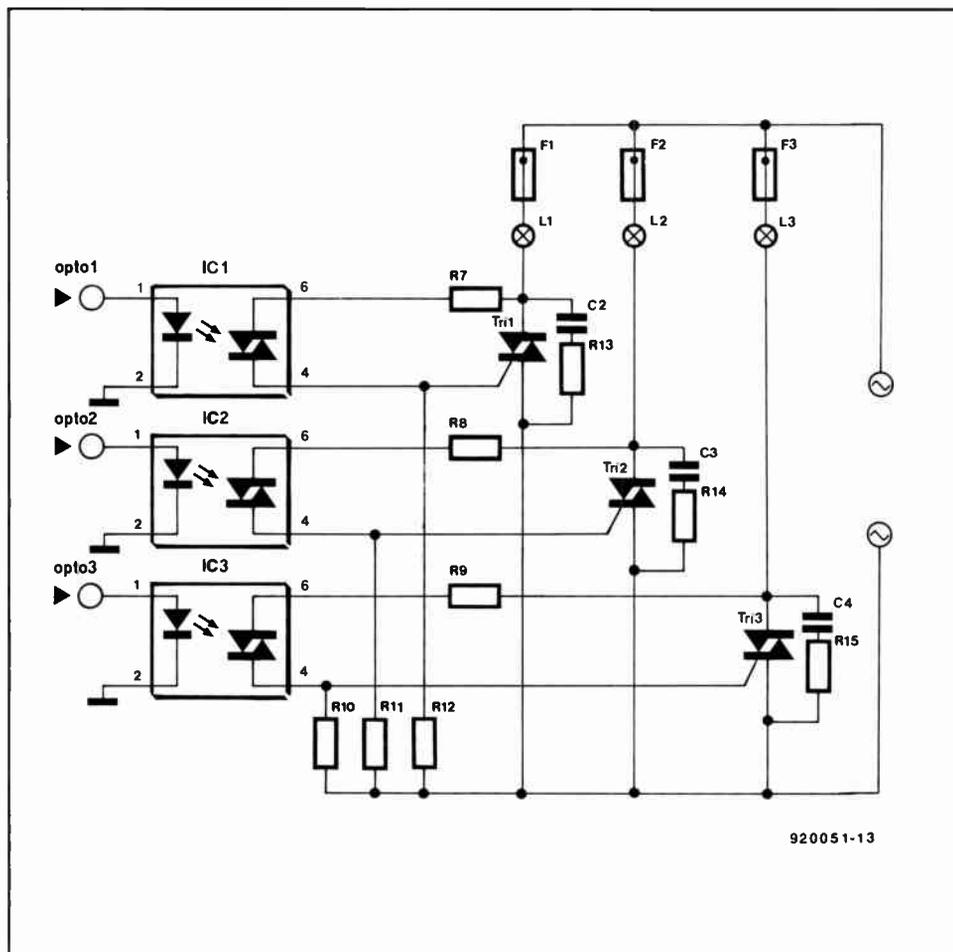

Fig. 2. Automatic/manual control circuit.
The pulse generator is built around a Type 4047 monostable/astable multivibrators shown in Fig. 2. Three different clock signals are available: (a) at pin 13 (oscillator output); (b) at pin 10 (Q); and (c) at pin 11 (Q). The pulse width (on-time) is controlled through an RC circuit connected between pins 1, 2, and 3.
The circuit in Fig. 2 is best constructed on an individual small PCB. The location of photoresistor R₁₆ depends on individual requirements. Adjust P₂ for the desired level of 'darkness' as indicated by the lighting of D₀ (and the relay changing state). The pulse width is controlled by P₁, which is normally set for a value of 330 ms (≈3 Hz).